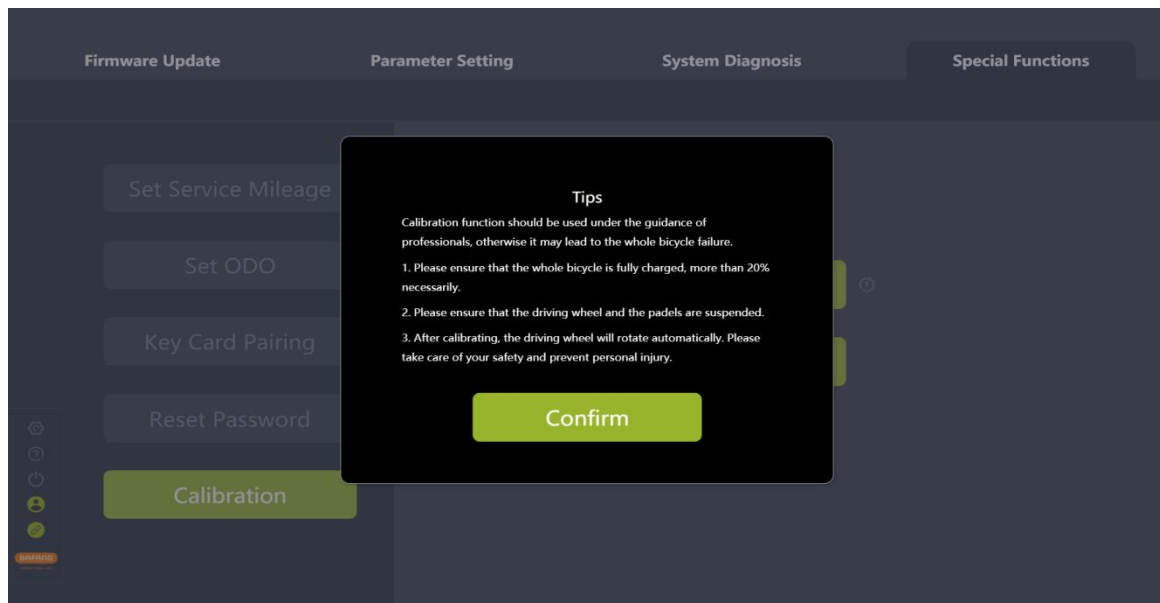

Fig. 7-7 Tips for position sensor calibration
- (3) Click the icon next to the icon "Start" to view the tips for position sensor calibration (e.g. Fig. 7-7).